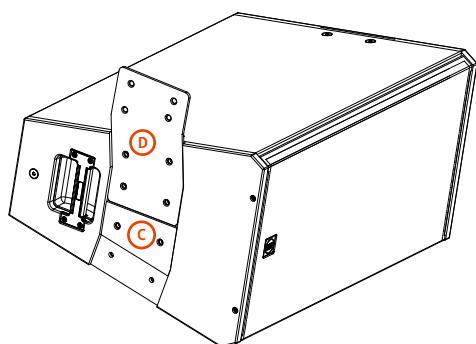

FIGURE 1
- (B)** a Link Plate (with 6 holes)
- (C)** an External Plate (with 2 holes)
Now place the **FLYING BRACKET 10° Q15 (D)** as shown in the picture and place the External Plate **(C)** next to the **FLYING BRACKET 10°** in order to place the following speaker beside the first one as shown on **FIGURE 1**. On the bottom speaker place the External Plate **(C)** as shown on **FIGURE 2**. Then place back the Top Plate on its position.